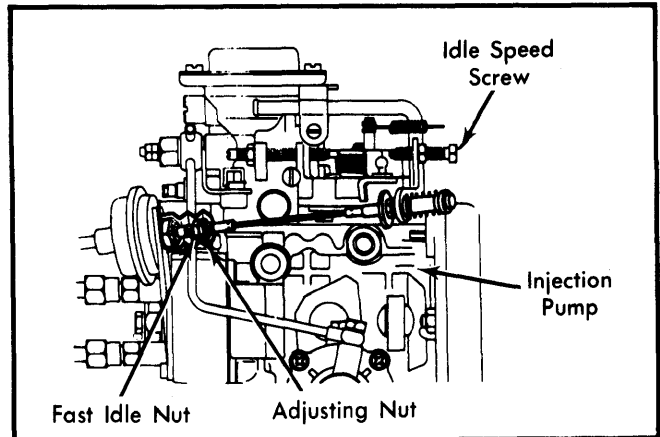

Fig. 13 Idle Speed Adjustments
2) Disconnect vacuum hoses from vacuum switching valve and connect them together using piece of tubing. Fast idle speed should be 900-950 RPM on all models. If not, loosen adjusting nut and adjust with fast idle nut. See Fig. 13. Remove hose jumper and reconnect hoses, then remove tachometer.